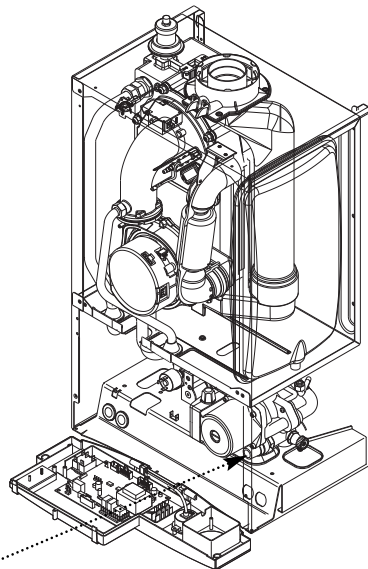

Fig. 7
1. The appliance expansion vessel is pre-charged to 0.5 bar. Therefore, the minimum cold fill pressure is 0.5 bar. The vessel is suitable for correct operation for system capacities up to 125 litres (18, 24) 155 litres (27). For greater system capacities an additional expansion vessel must be fitted. For GB refer to BS 7074 Pt 1. For IE, the current edition of I.S. 813 "Domestic Gas Installations".
6.7 Safety Pressure Relief Valve (Fig. 7)